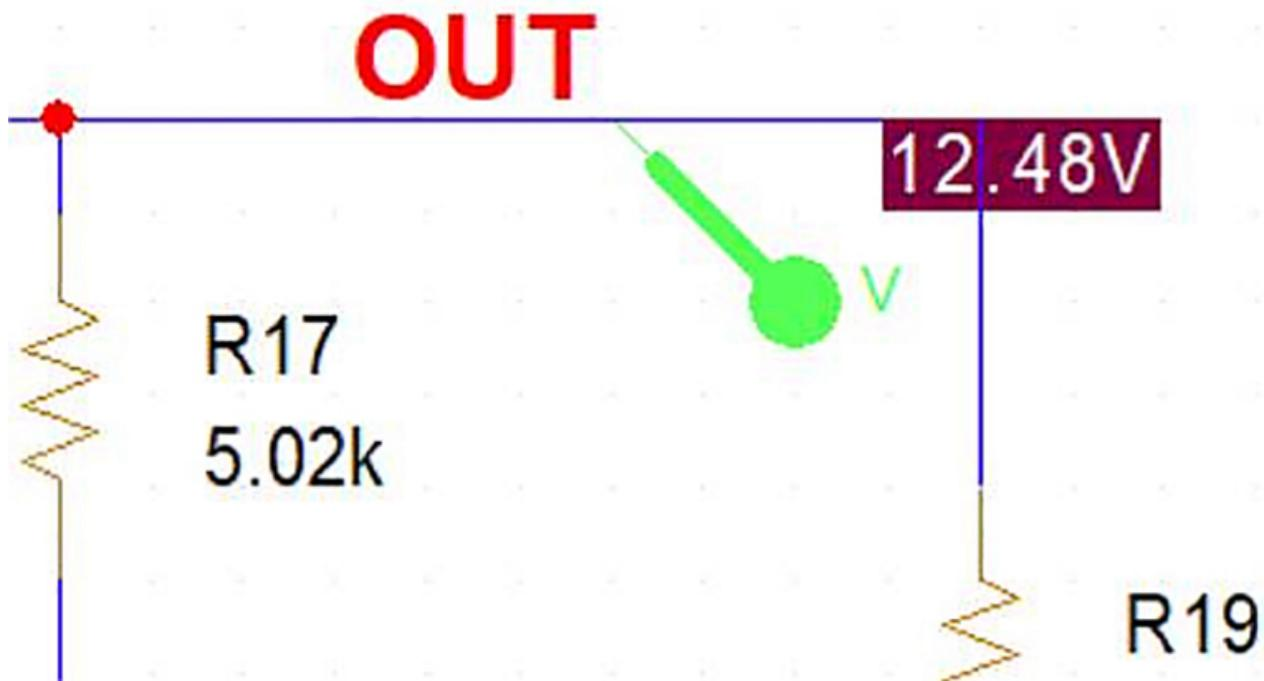

Figure 4. Marker Placed on the OUT Node
3. Click at the point where you want to see the result, which in this example is the OUT node shown in Figure 4.